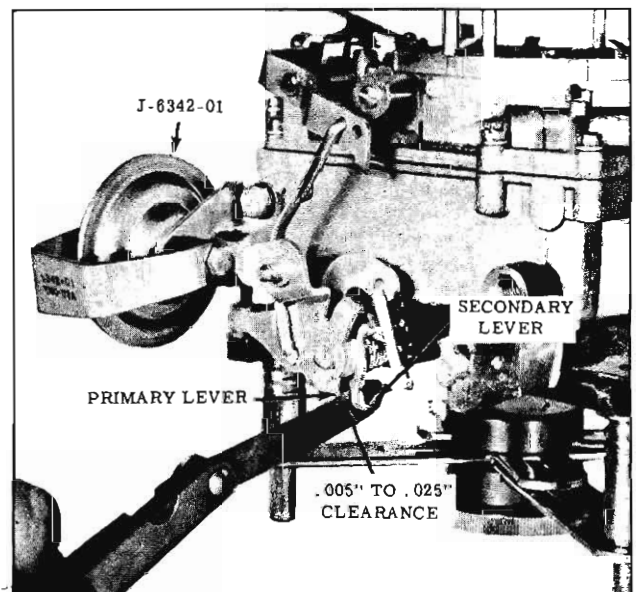

Fig. 4-30 Secondary Actuating Lever Adjustment
3. Remove slack from linkage and insert a feeler gauge between the actuating lever and the primary lever. (Fig. 4-30)